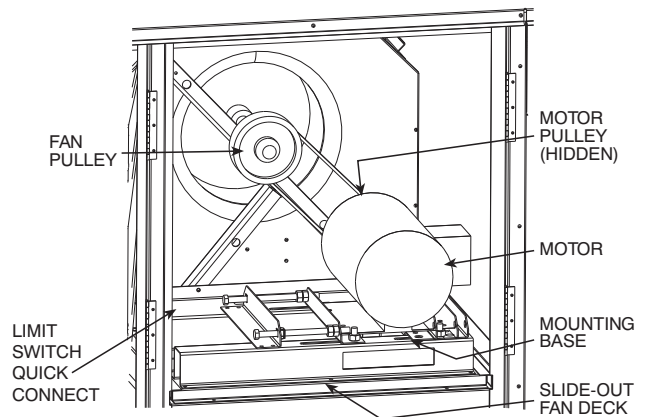

Fig. 31 - Evaporator-Fan Motor Adjustment
3. Remove three no. 10 screws at front of slide-out fan deck. Save screws. (See Fig. 31.)
## Evaporator Fan Performance Adjustment (See Fig. 31 and 32.)
4. Move motor mounting plate to adjust to proper belt tension. (See Table 9.) Motor adjuster bolts may be used to tighten belts. (See Fig. 31.)